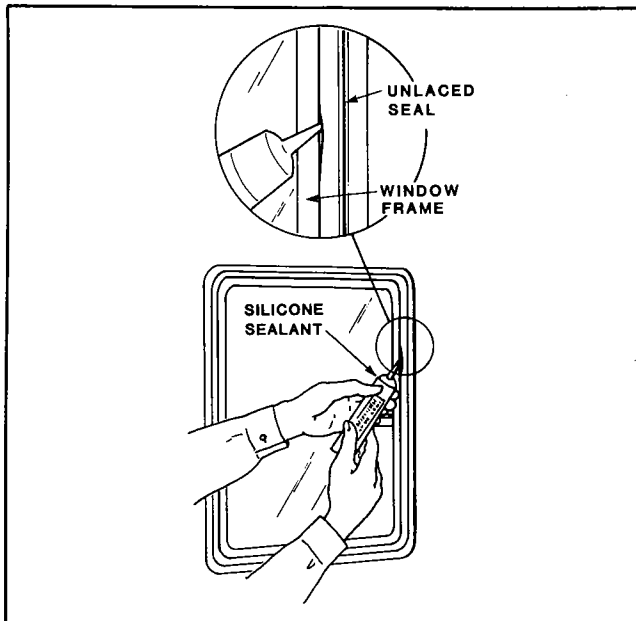

Figure 15. Window Frame Seal
5. Using a tube of 3M windshield sealer (3M Automotive P/N 08511 5 oz. tube), run a bead down in the groove under the lip of the seal next to the window frame as shown (figure 15).